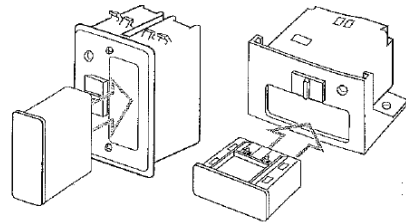

Figure 2
- 3) Slide the battery compartment into the Remote Receiver as shown in Figure 2.